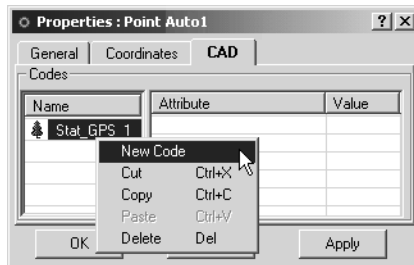

Figure 4-50. Code Pop-up Menu
- Right-click in the *Name* field and click **New Code** on the pop-up menu (Figure 4-50).